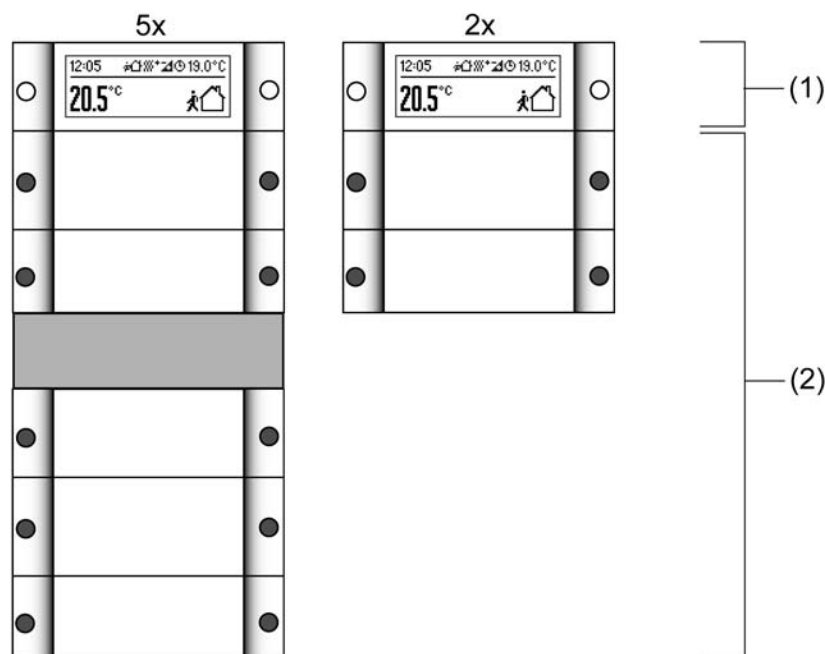

Figure 5: Arrangement of the control surfaces on the front of the device
Depending on the device variant, the device consists of up to 6 mechanically separate control surfaces. The control surfaces are the design covers attached to the device with push button elements underneath. A distinction is made between the display control surface (1) and the control surfaces of the push button sensor function (2) (Figure 5).